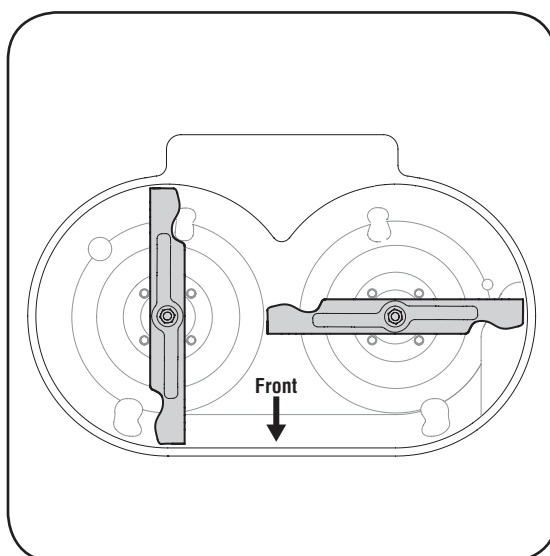

Figure 5-19: Blades must be perpendicular to each other after installing new timing belt.
8. Before installing a replacement timing belt, the marks on each spindle assembly must be positioned in such a way as to ensure the blades are perpendicular to each other, Figure 5-19.